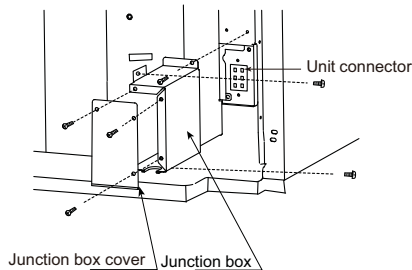

Fig.14-Junction Box Location
* Remove junction box cover by removing three screws from front.Remove junction box by taking out top,rear and side screws.See Fig.14.